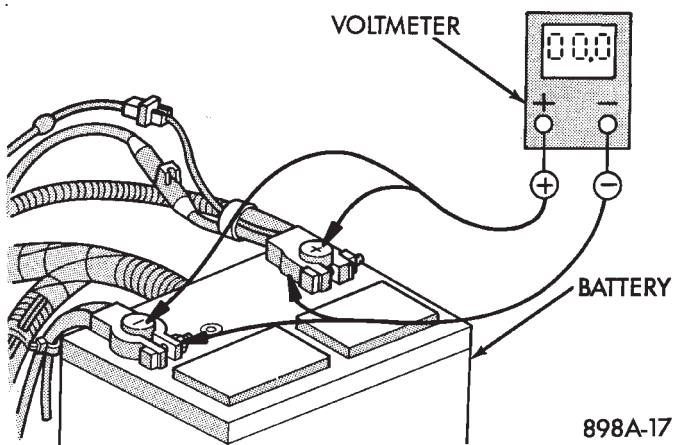

Fig. 2 Test Battery Connection Resistance
(1) Connect positive lead of voltmeter to battery negative post. Connect negative voltmeter lead to battery negative cable clamp (Fig. 2). Rotate and hold ignition switch in the START position. Observe voltmeter. If voltage is detected, correct poor contact between cable clamp and post.
(2) Connect positive lead of voltmeter to battery positive post. Connect negative lead to battery cable positive clamp (Fig. 2). Rotate and hold ignition switch in the START position. Observe voltmeter. If voltage is detected, correct poor contact between cable clamp and post.